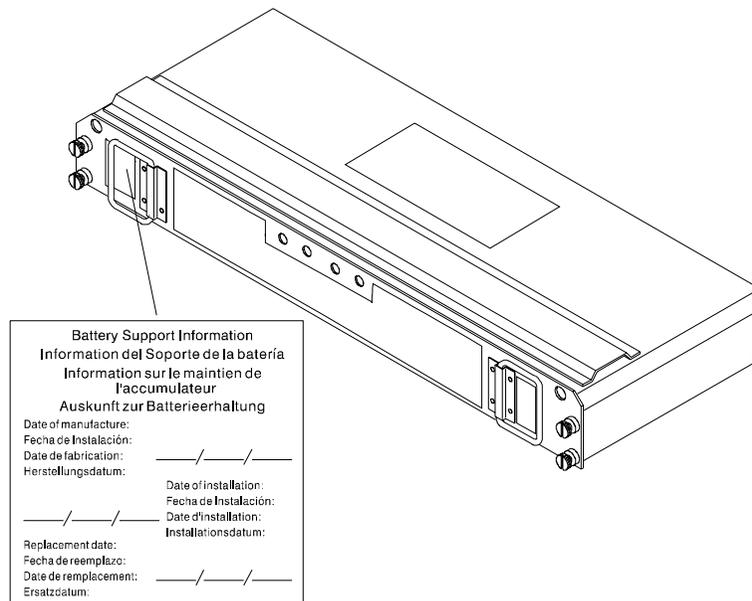

Figure 36. Recording the battery support information
- The service label on the battery provides a blank line for recording the date on which the battery was last serviced (see Figure 36 on page 38). Check this label to determine when to replace the battery. For information about using the software to track battery age, refer to the IBM FASSt Storage Manager documentation and online help.
- Find the “Battery Support Information” label on the front of the new battery CRU, as shown in Figure 36.